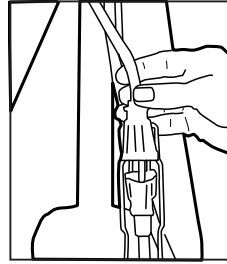

Fig. 1
- Turn the knob on the bottom of the cord lock to tighten the lock and prevent the cords from pulling apart (Fig. 1).